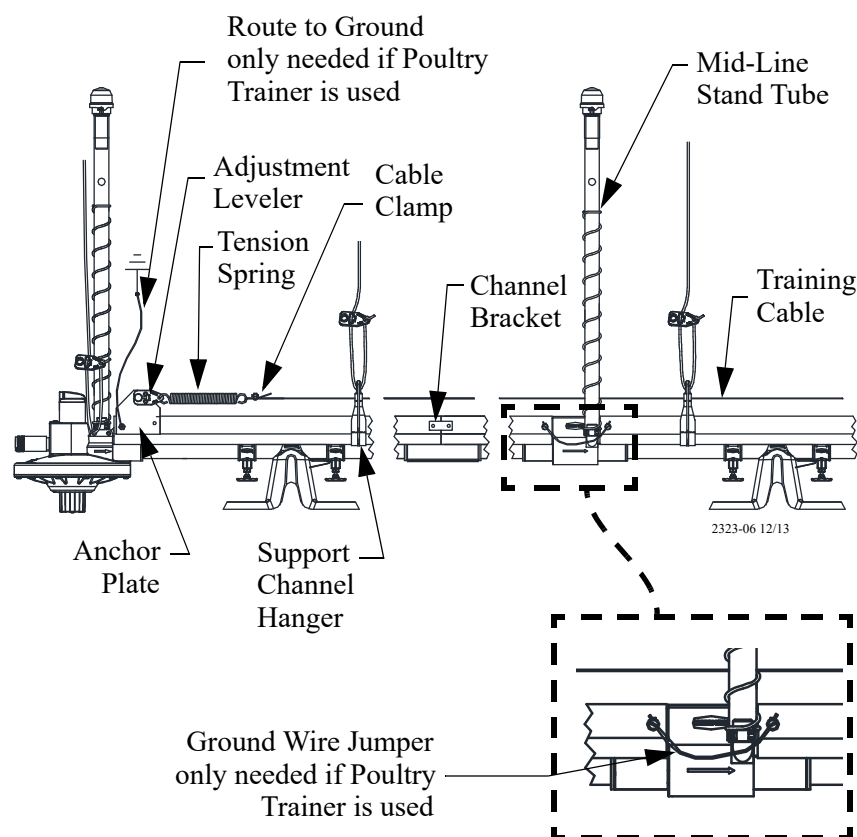

Figure 30. Anti-Roost Components
1. Make certain that an anchor plate with adjustment leveler is installed at the beginning and end of each anti-roost line. (See **Figure 30**).
- Note: Make sure that the support channel is attached to a ground (to insure proper operation of the poultry trainer). It will be necessary to install a jumper wire at stand tube, inlet assemblies, etc., to insure the ground circuit (See **Figure 30**).